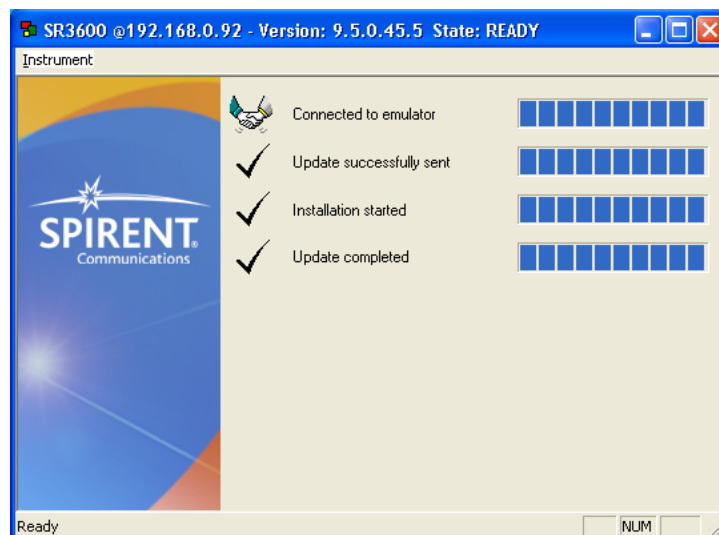

Figure 2-29: Update Status
6. Wait for the update to complete (this will take several minutes), as shown in Figure 2-29.